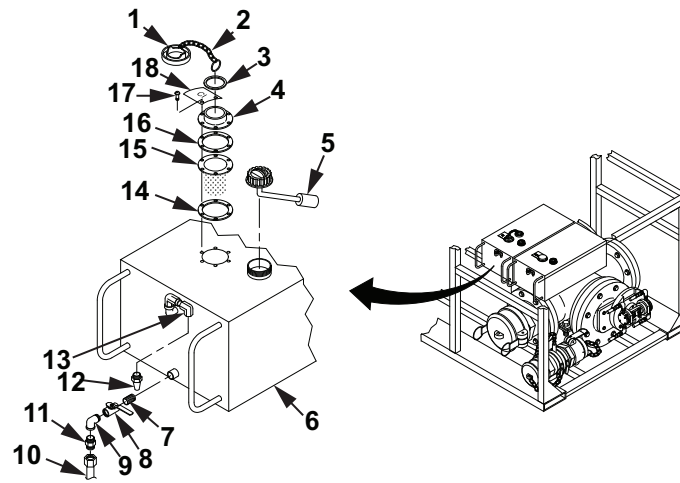

Figure 1. Fuel Additive Injection Assembly CI and SDA Additive Tank Disassembly.
- i. Discard gasket (Figure 1, Item 16).
- j. Remove filler/strainer (Figure 1, Item 15) from additive tank (Figure 1, Item 6).
- k. Remove gasket (Figure 1, Item 14) from filler/strainer (Figure 1, Item 15).
- l. Discard gasket (Figure 1, Item 14).
4. Remove level gauge (Figure 1, Item 5) from additive tank (Figure 1, Item 6).
5. Remove additive shutoff valve (Figure 1, Item 8) from additive tank (Figure 1, Item 6).
- a. Disconnect hose (Figure 1, Item 10) from adapter (Figure 1, Item 11).
- b. Remove adapter (Figure 1, Item 11) from 90° elbow (Figure 1, Item 9).
- c. Remove 90° elbow (Figure 1, Item 9) from additive shutoff valve (Figure 1, Item 8).
- d. Remove additive shutoff valve (Figure 1, Item 8) and nipple (Figure 1, Item 7) from additive tank (Figure 1, Item 6).
- e. Remove nipple (Figure 1, Item 7) from additive shutoff valve (Figure 1, Item 8).
6. Remove drain pan under additive tank (Figure 1, Item 6) and dispose of contents per local procedures.